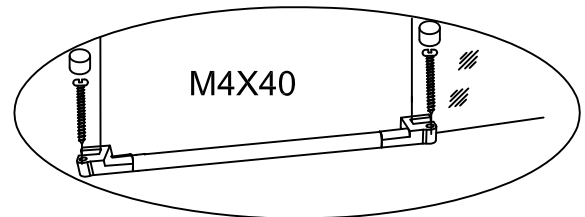

Fig.41
Using the hardware from screw pack 3 install the threshold bar assembly. Install the decorative screw plug covers into Threshold End Caps (12). See Fig.41 for details.